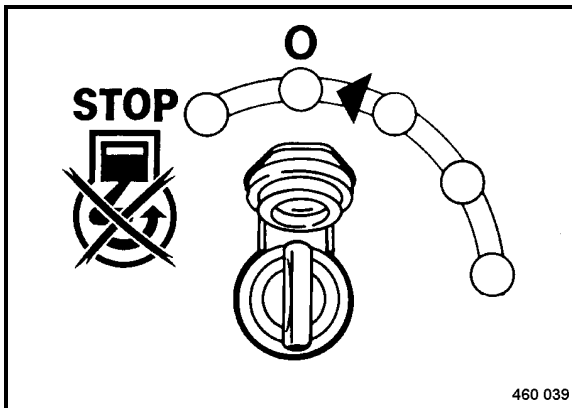

Fig. 70
- Turn the ignition key (Fig. 70) to position "0" and pull it out.